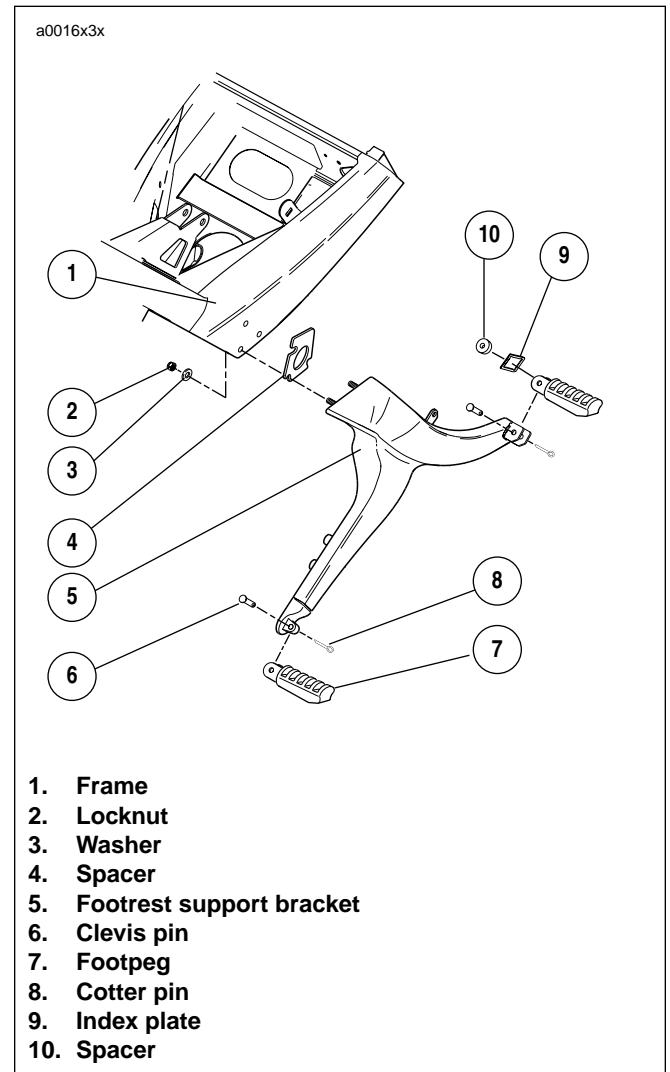

**Figure 3-9. Rear Master Cylinder and Brake Line Assembly**
See Figure 3-9. Remove rear master cylinder before removing sprocket cover.
23. See Figure 3-9. Disconnect screws (1, 3, 6) at brake fluid reservoir, master cylinder and brake line bracket.